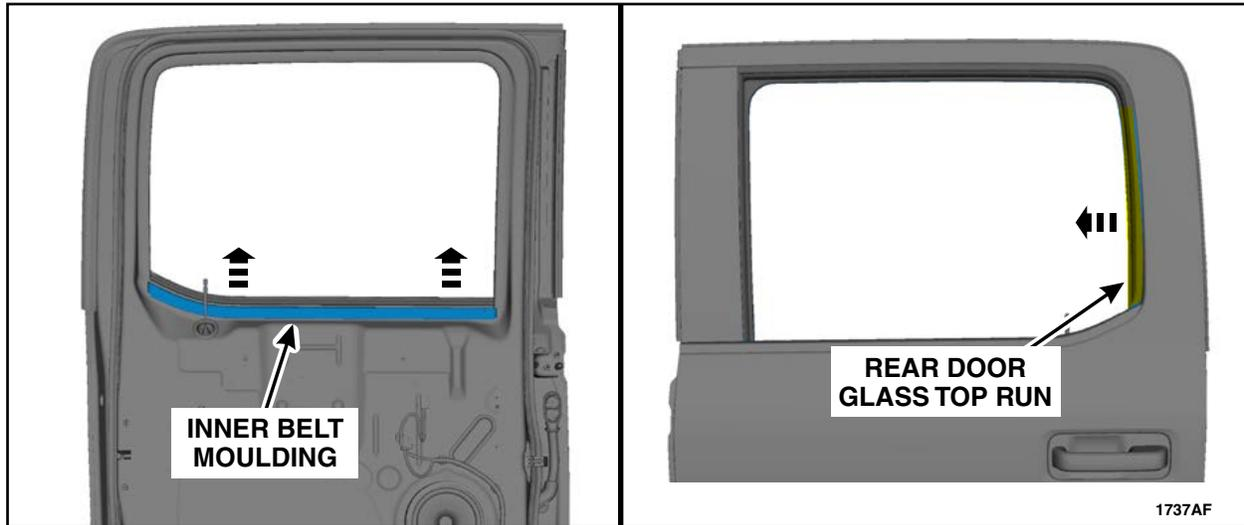

FIGURE 25
See Figure 25.
10. Reinstall the latch side of the rear door glass top run and the inner belt moulding. See Figure 25.